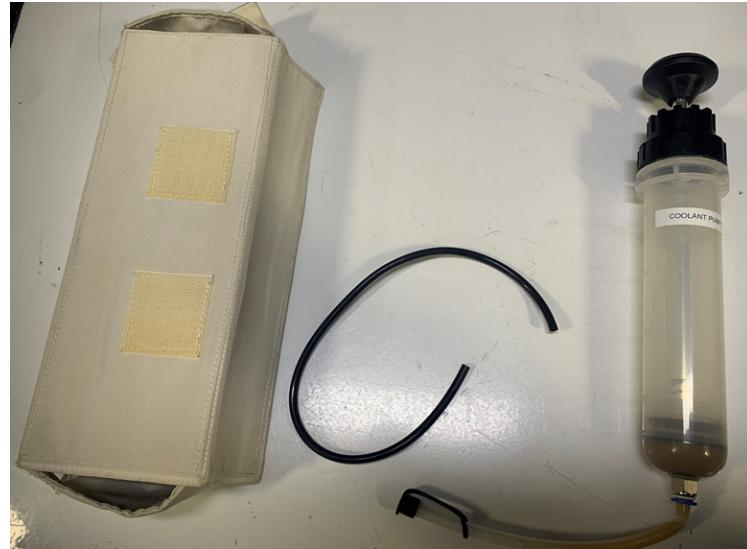

Figure 6: Coolant Pump Syringe Kit
- 3.3 Fill new canister before inserting into fixture by using the electrolysis water syringe from the Coolant Pump Syringe Kit (see Figure 6).